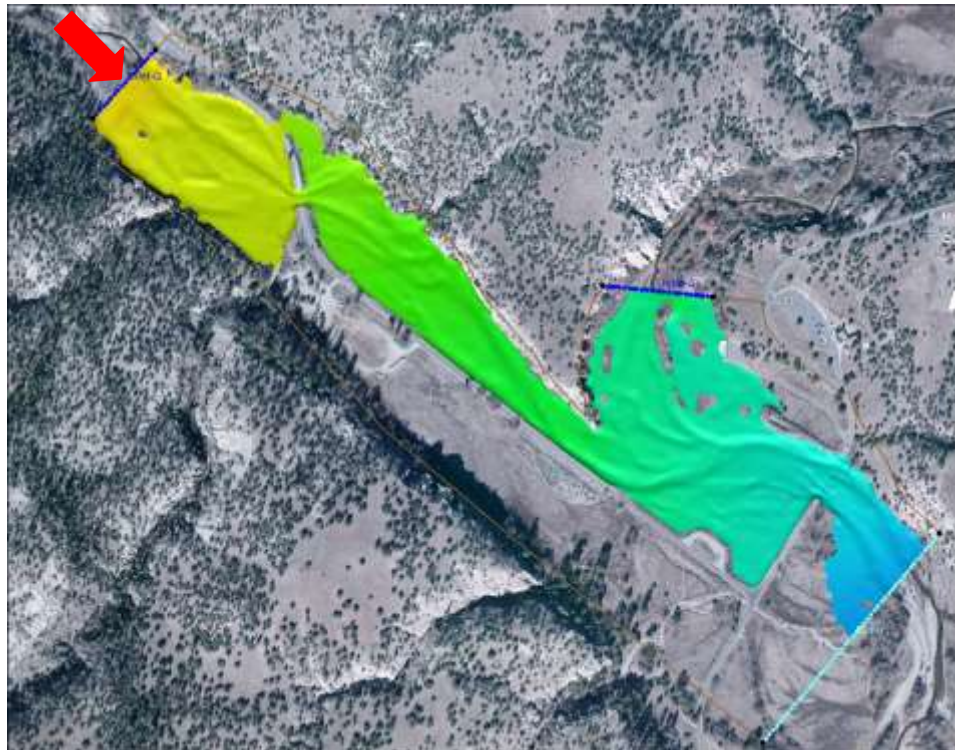

Figure 7 Inlet Q boundary condition
5. Use the **Select Feature Arc**  tool to double-click on the *Inlet Q* boundary condition shown in Figure 7. This should open the *SRH-2D Assign BC* dialog.